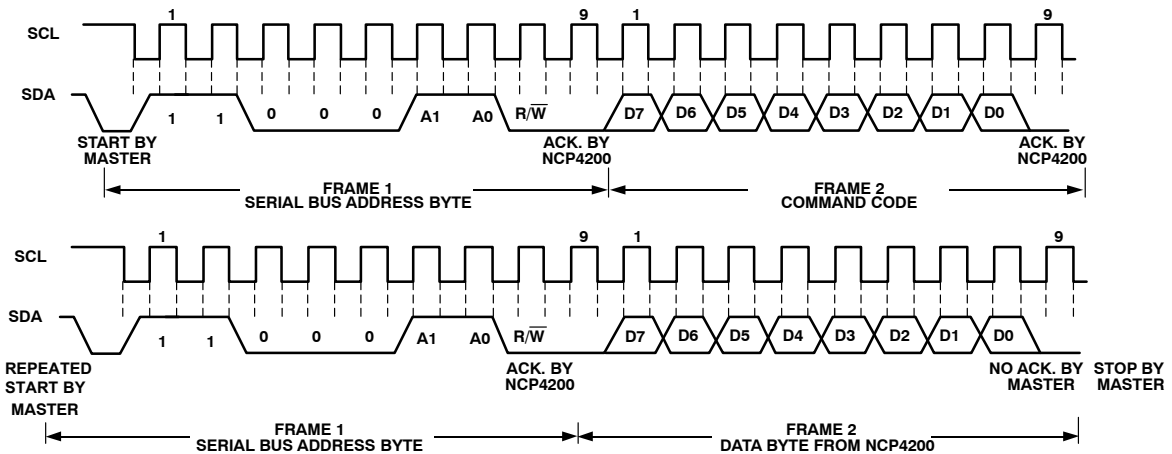

Figure 13. Read Byte
1. The read byte operation is shown in Figure 13. First the command code needs to be written to the NCP4200 so that the required data is sent back. This is done by performing a write to the NCP4200 as before, but only the data byte containing the register address is sent, because no data is written to the register. A repeated start is then issued and a read operation is then performed consisting of the serial bus address; R/\overline{W} bit set to 1, followed by the data byte read from the data register.